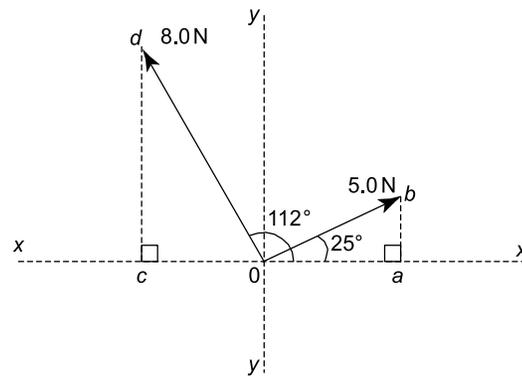

Figure 4.26
The space diagram is shown in Figure 4.26.
**Hence the resultant of the two forces shown in Figure 4.26 is a force of 9.653 N acting at 80.85° to the horizontal.**